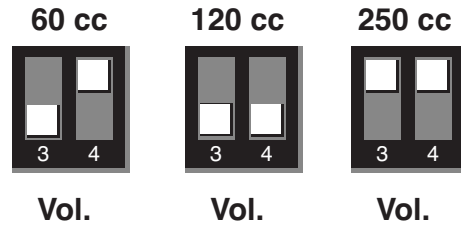

FIG. 5
3. Use a small screwdriver or your finger to move dip switches to the desired position. Refer to FIG. 5.
- In FIG. 5 the white square indicates dip switch position.
There are 3 switch position options. These positions correspond to each of the 3 lubrication canister sizes: 60 cc, 120 cc, 250 cc. Refer to FIG. 5 for correct position for each option.